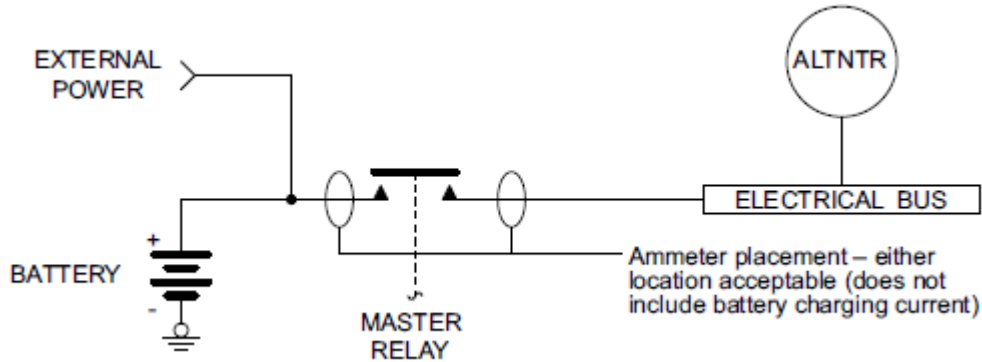

Figure 4-52 Ammeter Placement for Current Measurements
6. Insert/attach the ammeter in the line from the external power source to the master relay circuit as shown in Figure 4-52. This will eliminate errors due to the charging current drawn by the battery.